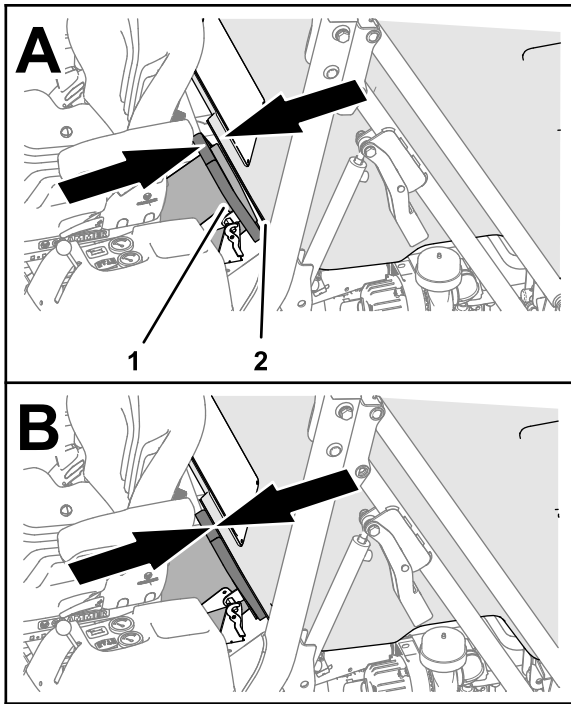

Figure 137
2. Slide the hopper forward or rearward until the hopper inlet aligns with the chute seal (Figure 137).